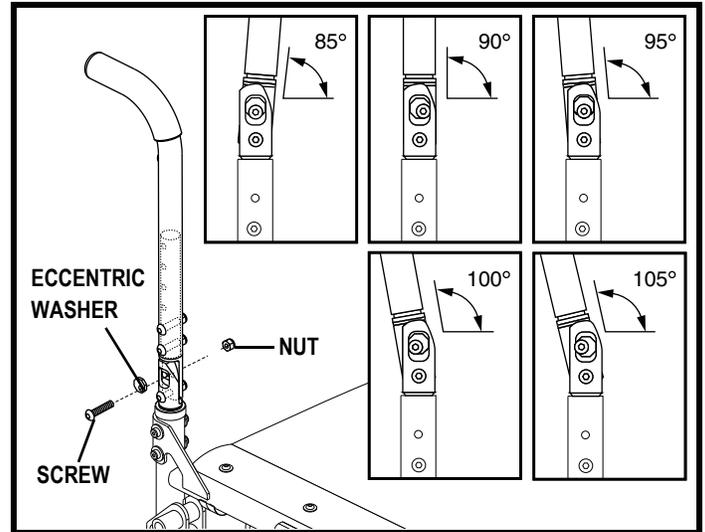

Figure 19. Seatback Angle Adjustment
2. Remove the angle adjustment screw See figure 19.
4. Reinstall the angle adjustment screw. See figure 19.